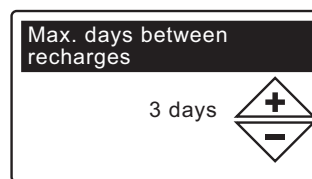

FIG. 18
- 7. MAX. DAYS BETWEEN RECHARGES** Press the UP (▲) or DOWN (▼) buttons to set the number of days between automatic recharges (See Figure 18). The feature can be set from 1 to 99 days.